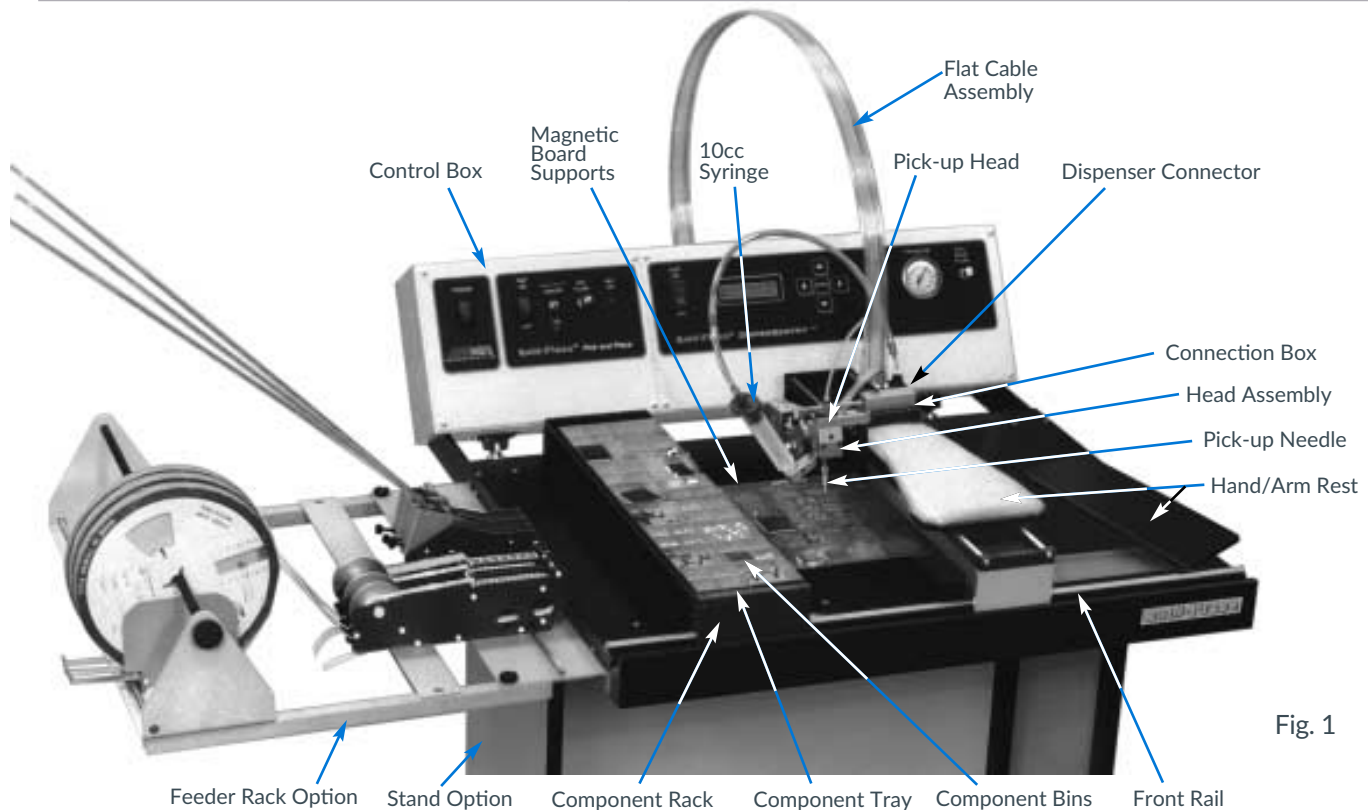

Fig. 1
## 3. Set-up And Installation (Refer to Figs. 1, 2 & 3)
8. Place component rack on rails and ensure that it slides properly (refer to Fig. 1).
9. Place (2) component trays in component rack and ensure that bins are seated properly in trays.
## 4. Operation (Refer to Fig. 1.)